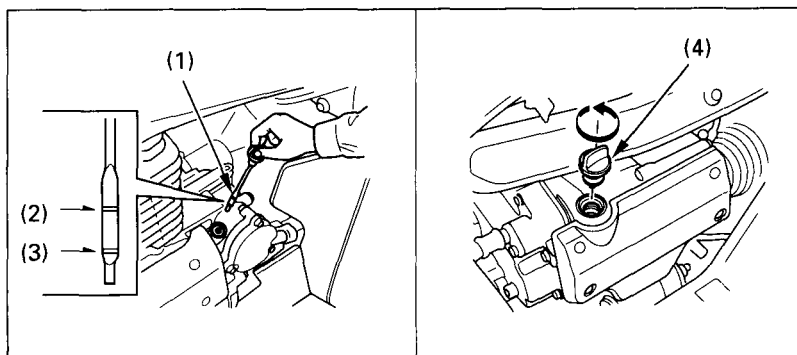

Fig. 4-9
4. After a few minutes, remove the dipstick (1) (Fig. 4-9) from the front crankcase cover and wipe it clean.
5. Insert the dipstick without screwing it in, then remove the dipstick and check the oil level. The oil level should be between the upper level mark (2) and the lower level mark (3) on the dipstick.
6. If required, remove the oil filler cap (4) from left side of the crankcase and add the specified oil into the filler cap hole, up to the upper level mark on the dipstick. Do not overfill.